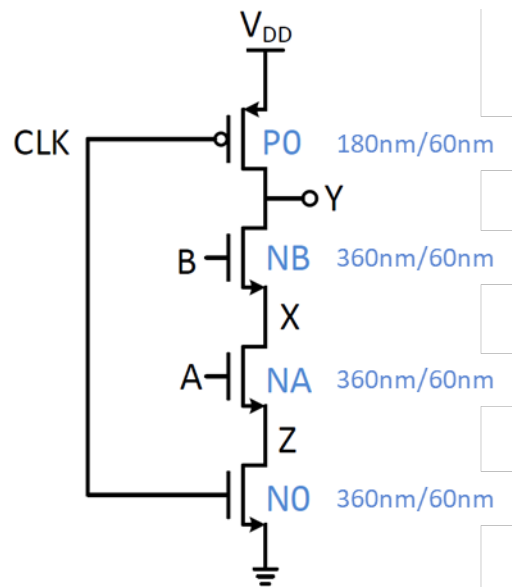
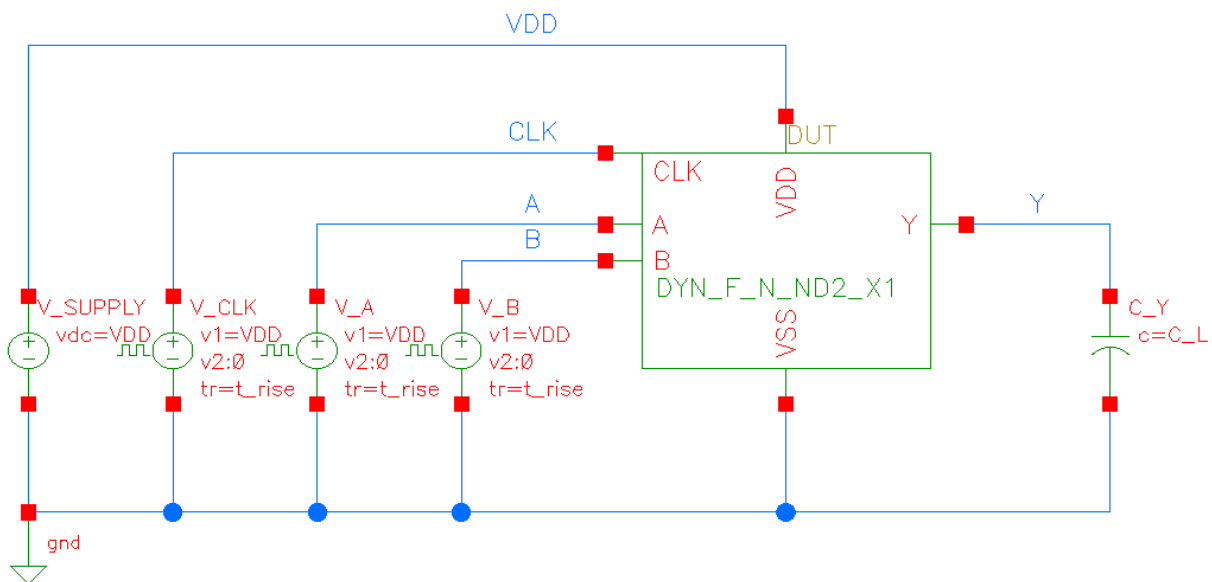

Figure 1: Dynamic NAND Gate
Figure 2: Dynamic NAND Gate Simulation Schematic
This name consists of 5 different properties of a gate. The first abbreviation which is **DYN** stands for the fact that the gate is a dynamic gate. **N** indicates that the logic tree is composed of nMOS devices (i.e. the transistors which perform the logic function are nMOS). **F** shows that the gate is footed (i.e. in the case of an N network, a clocked nMOS transistor exists at the bottom of the gate, under the nMOS logic tree; later, it will be shown that the clocked nMOS can be removed by applying some constraints. If there are some points which are not clear, you can refer to Figure 1: NA and NB are logic tree transistors; NO: (foot) clocked nMOS under nMOS logic tree). **ND2** specifies that the gate performs NAND logic function with 2 inputs. Finally, **X1** displays the driving strength of the gate. For the different options of the 5 different properties please observe the tables below:
Create a new schematic view and call it **DYN_N_F_ND2_X1**. Draw the dynamic NAND gate shown on Figure 1. Always use **N_12_LLVRT** and **P_12_LLVRT** transistors under the library *umc65ll*. Do **NOT** forget to connect all bulk nodes of the nMOS devices to VSS and all bulk nodes of the pMOS devices to VDD pins. Set all the transistor dimensions to the values which are indicated on the figure. Do **NOT** forget to enter the label name **X** according to Figure 1. Connect the input pins A and B exactly same as in Figure 1 although the reverse connection results in the same functionality. Create the symbol view. During the creation of the symbol view, change the property of the NLPLabel from **[@partName]** to **[@cellName]**. You should do this each time you create the symbol view of a cell. By doing this, you will be able to see the correct cell name on a symbol view in case you copy a cell. On the symbol view, also place the CLK pin to the upmost point as shown on Figure 2. This way it is separated from the other input data signals.
Under the library **VLSI2_TB** create a new schematic view and call it **DYN_N_F_ND2_X1_TB**. Draw the schematic of Figure 2 by providing the necessary net names. Edit the properties of the voltage sources according to Table 5.
- Observe the transitions by looking at the dynamic NAND gate schematic on Figure 1 and considering the MOS parasitic capacitances seen at the nets **Y** and **X**, and considering the states of the transistors (either they are ON/OFF) (Do not forget the fact that the net Y at the output is a precharged floating node).
Case Study 1: Two different simulations were run on the circuit of Figure 2. The below data is observed: